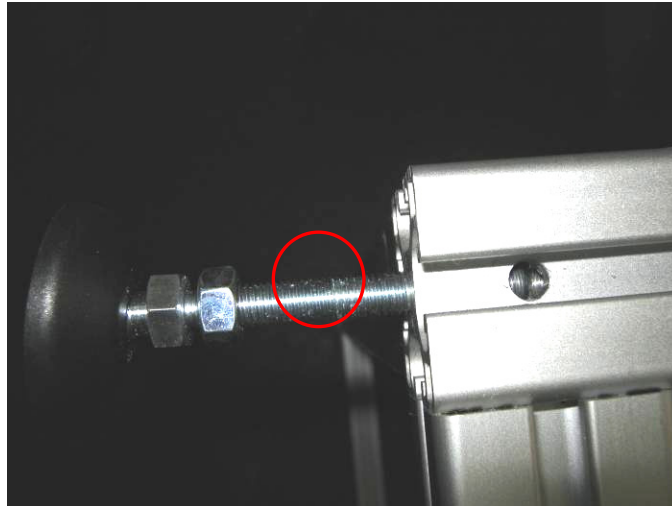

Figure 8 Thread depth of feet.
- Screw the removed feet into the instrument rack, ensuring that the feet are all screwed in far enough and to the same height; the tread should be visible through the hole drilled in the aluminium section (see Figure 8)